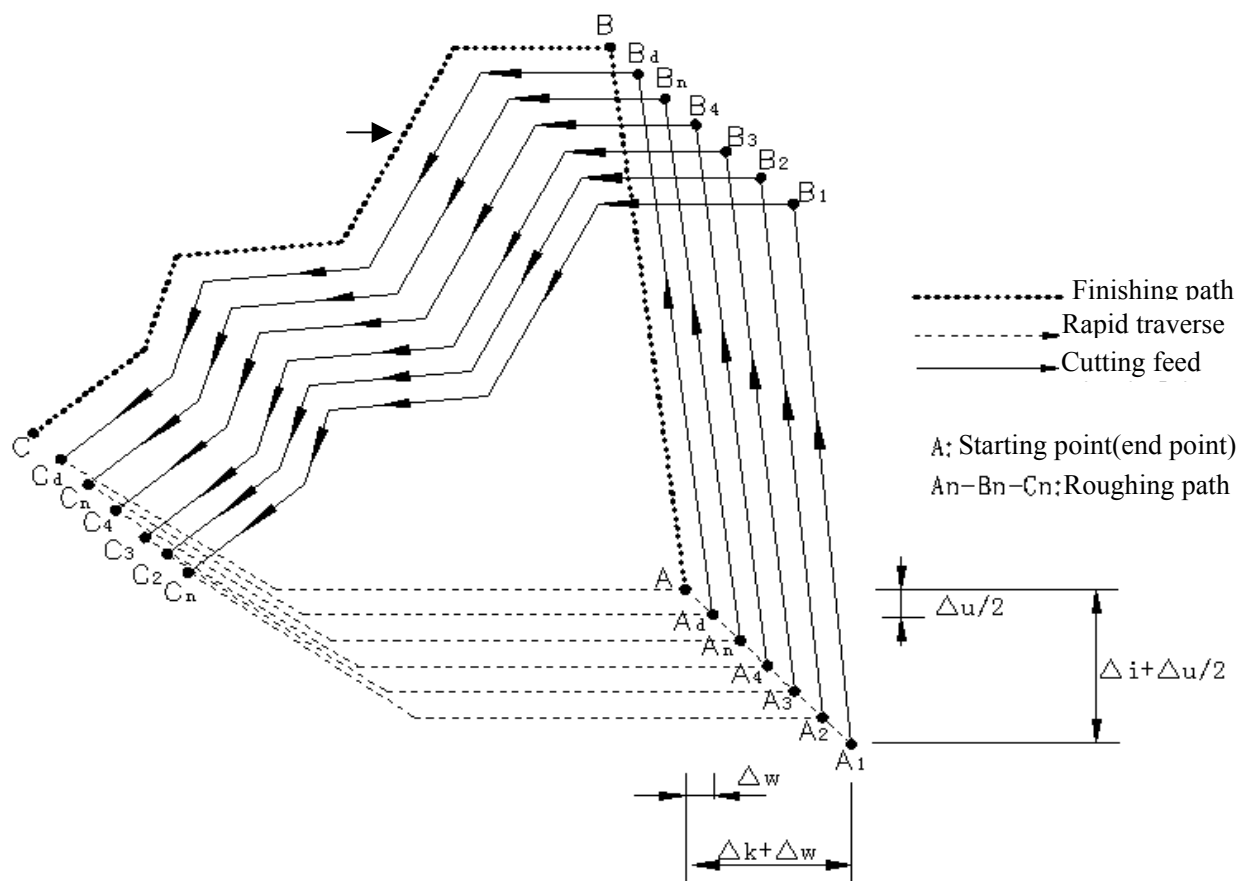

Fig. 3-26 G73 path
According to the finishing allowance, the travel of tool retraction and the cutting times, the system automatically counts the travel of roughing offset, the travel of each tool infeed and the path of roughing, the path of each cutting is the offset travel of finishing path, the cutting path approaches gradually the finishing one, and last cutting path is the finishing one according to the finishing allowance. The starting point and end point of G73 are the same one, and G73 is applied to roughing for the formed rod. G73 is non-modal and its path is as Fig.3-26.
**Execution process:(Fig. 3-26)**
- ①  $A \rightarrow A_1$ : Rapid traverse;
- ② First roughing  $A_1 \rightarrow B_1 \rightarrow C_1$  :
- ③  $C_1 \rightarrow A_2$ : Rapid traverse;
- ④ Second roughing  $A_2 \rightarrow B_2 \rightarrow C_2$  :
- ⑤  $C_2 \rightarrow A_3$ : rapid traverse;